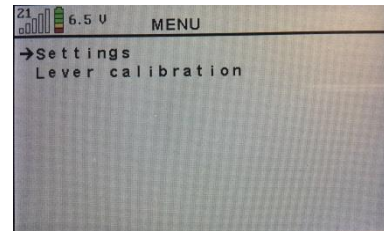

Figure: 37
- Activate the winch control by pressing the ✓ button on the remote control (see figure 37).